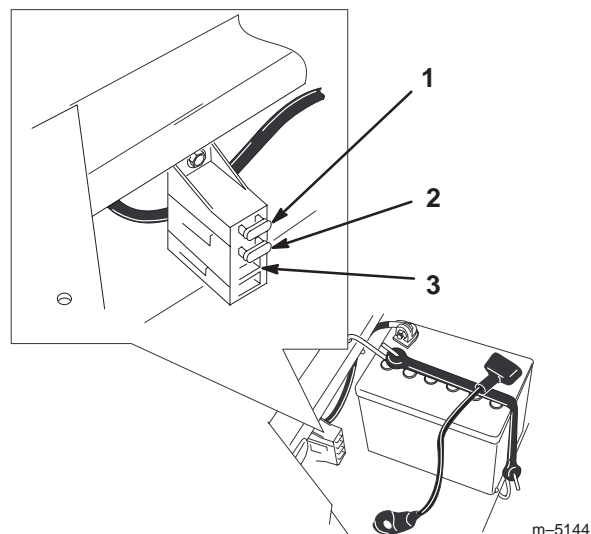

Figure 28
1. Raise the seat to gain access to the fuse holder (Fig. 28).
2. To replace a fuse, pull out on the fuse to remove it (Fig. 28).